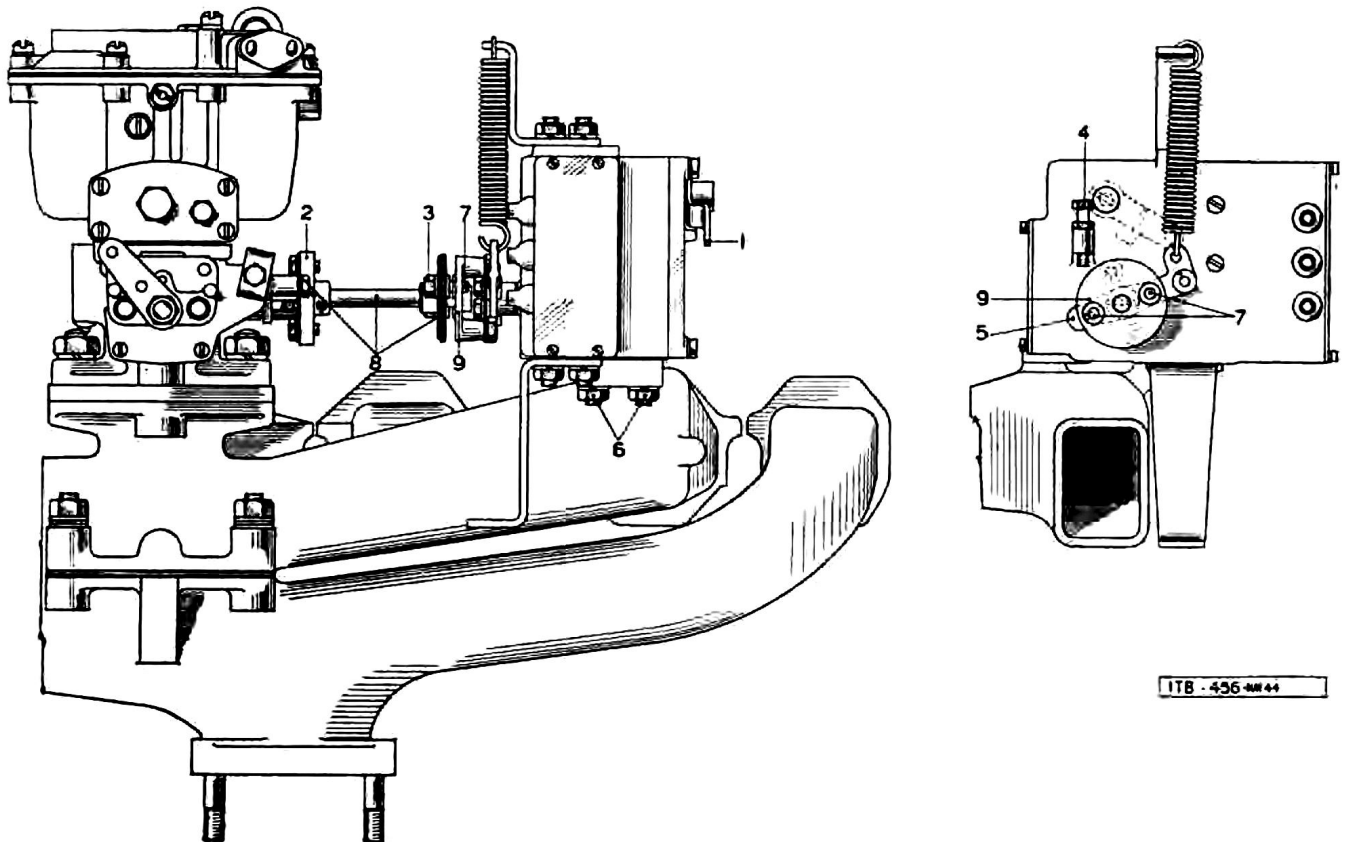

Fig. 32.—CONTROL BOX AND OPERATING SHAFT.
**The Operating Shaft.** (See Fig. 32)
**To adjust the Operating Shaft.** (See Fig. 32)
Slacken the three nuts (6) Fig. 32 securing the control box to manifold.